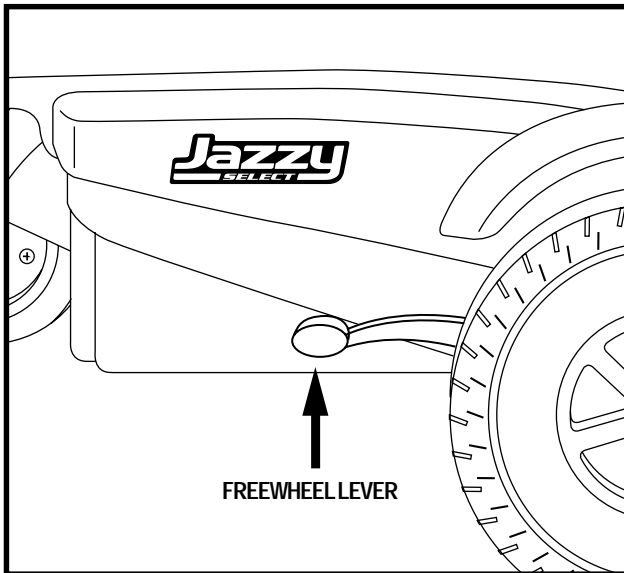

Figure 8. Drive Mode (Drive Engaged)
2. Pull both levers upward to engage the drive motors. See figure 8.